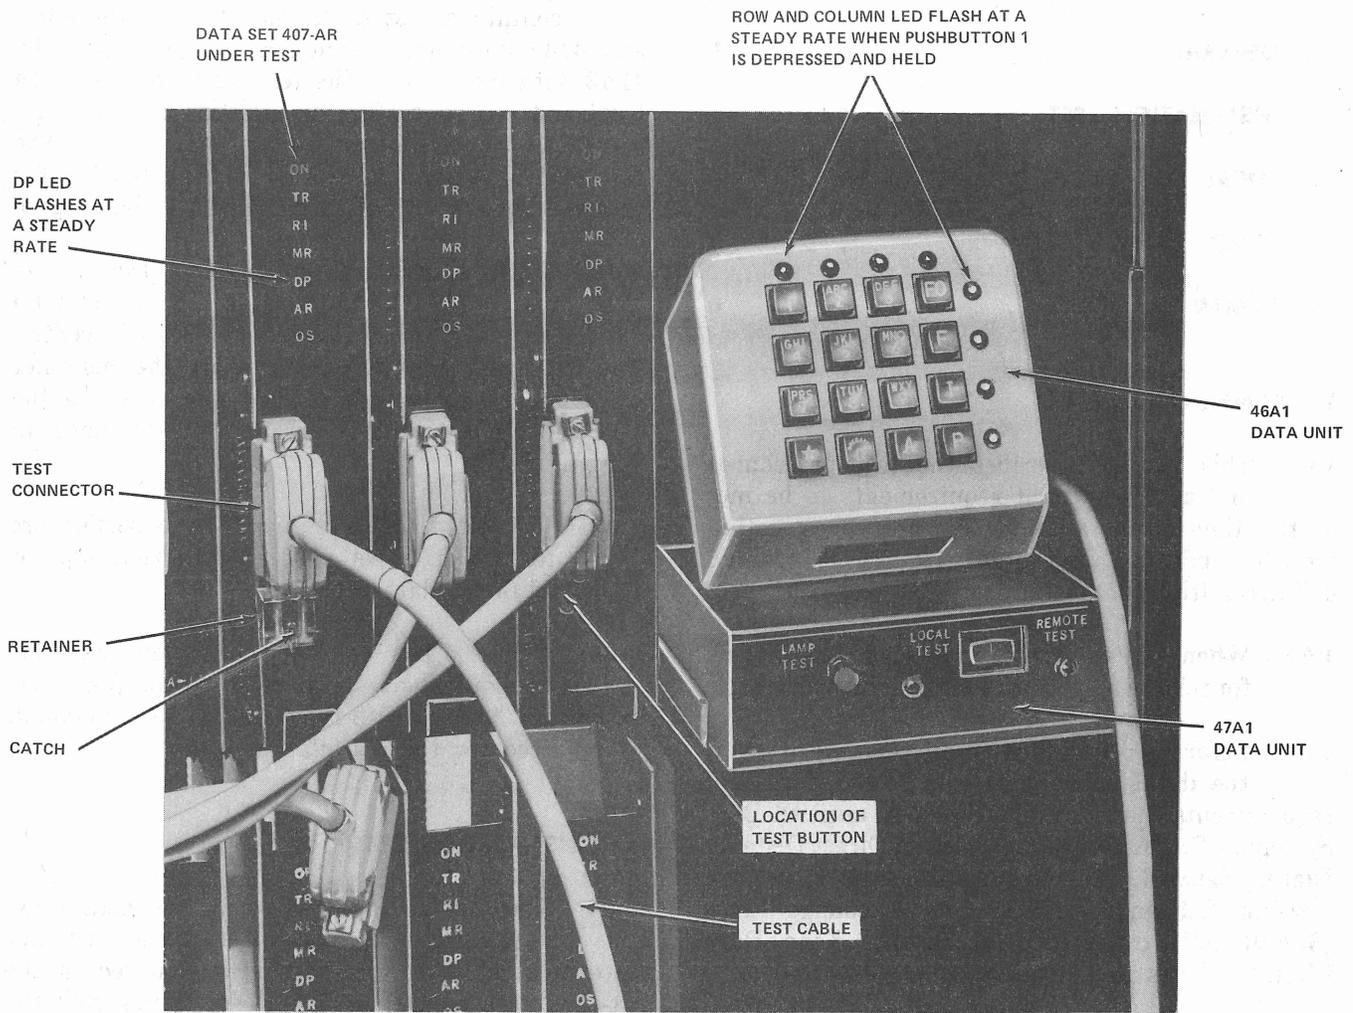

Fig. 1—Data Set 407AR Test Arrangement—Typical
1.06 When a data set is placed in the remote test mode, the data set is connected to a service line and then tested by the data test center. The local test may be conducted by the customer or telephone company (telco) employee using the test unit. A typical test arrangement is shown in Fig. 1.
Requirement: Associated row and column LEDs (on the 47A1 data unit) and DP LED (on the data set) flash at a steady rate (10 pulses per second). Refer to Fig. 1 for an example of which LEDs are flashing on the 47A1 data unit when pushbutton 1 is depressed.